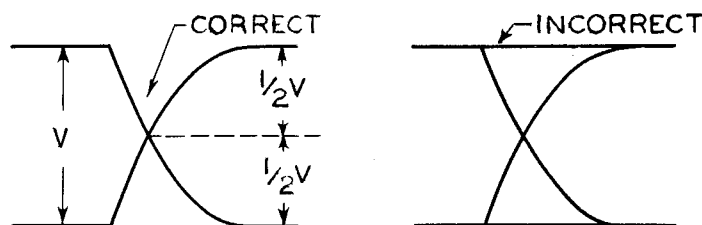

Figure 1 - Multivibrator Balance
2.10 Arrange the test oscilloscope for internal horizontal sweep with synchronizing control on 0, and carefully adjust the speed of sweep so that the pattern is stationary with each downward transition of the trace crossed by an upward transition. The speed of the sweep should be such that only one transition region appears in the pattern. With an insulated screwdriver, carefully adjust the MV BAL control until the region of intersection appears as an X with the point of intersection of the two branches of the X exactly halfway between the upper and lower horizontal lines of the oscilloscope pattern. (See Figure 1.) Remove the test connections to the oscilloscope.